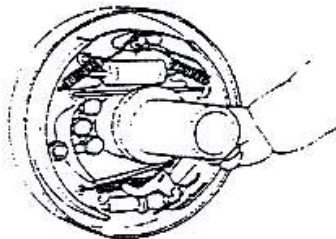
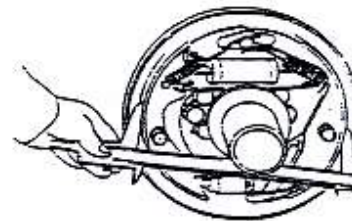

Fig. 2-30
Fig. 2-31
- (8) Fit the brake shoe guide plate on the support pin. Mount the brake shoe return spring. Fit the main brake shoe and auxiliary brake shoe successively. See Fig. 2-30.
- (9) Fit the adjuster, adjuster spring, ram and ram return spring. Pay attention to the following:
- (10) Connect the brake oil pipe with the brake wheel cylinder.
- (11) Measure the inner diameter of brake drum and the outer diameter of brake shoe friction lining. Adjust the adjuster to keep the difference between them within 0.3mm-0.5mm. See Fig. 2-31.